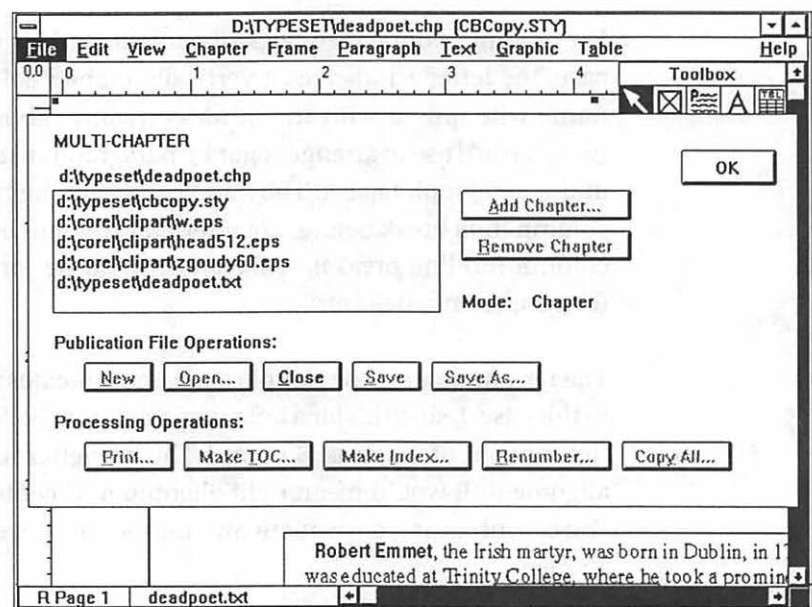

FIGURE 4-53 Use Ventura's Manage Publication command in the Windows Edition to find all of a chapter's files.
2. You'll get a list of all of that chapter's files (Figure 4-53): text, graphic, and style sheet files. The list will include the complete path and drive specification for each file, enabling you to find any file easily.